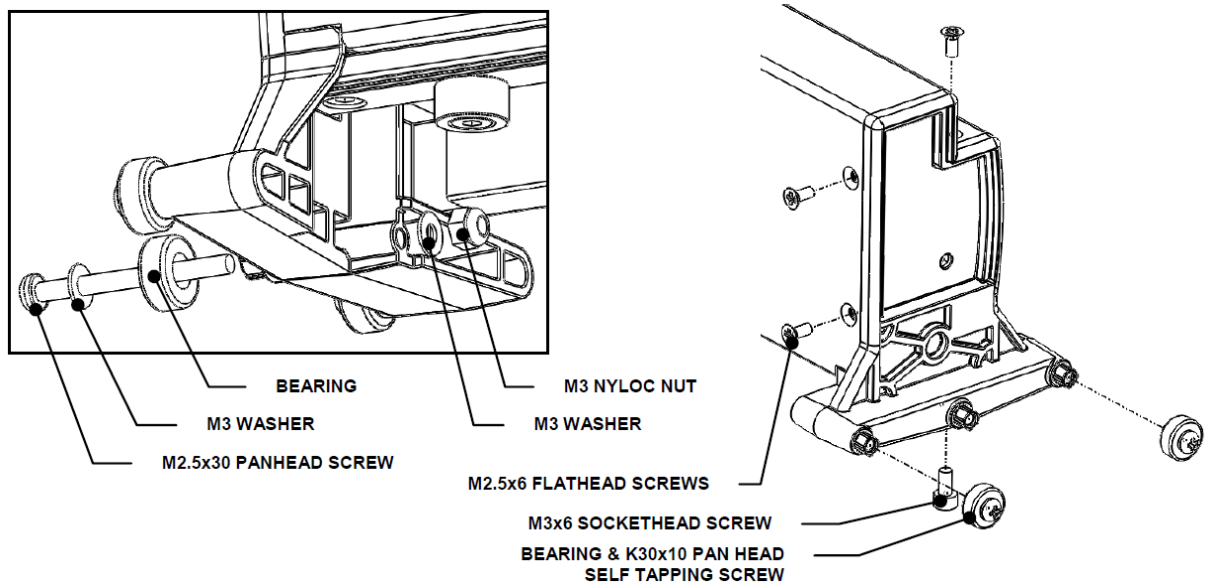

Figure T-9: Removing the Sample Pipettor Y Drive Front Cap
1. Remove the Sample Pipettor Y Drive Front Cap from the extrusion by removing the three flat head screws and the socket head screw that attach it to the extrusion (Figure T-9).
5. Fit and secure the Sample Pipette Y Drive Front Cap to extrusion using three M2.5x6 Pozi Flat Head Screws, an M3x6 Socket Head Cap Screw and Loctite 222 (Figure T-9).